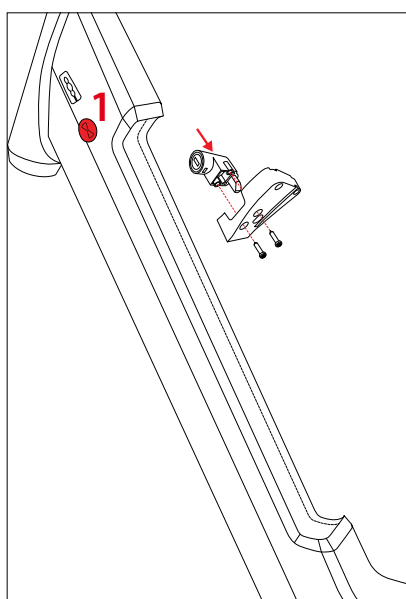

Figure 4.33 Lock iassembly1
2. Place the rubber plug [1] into the opening for the key (Fig. 4.33).
3. Connect the plastic part of the lock to the lock using two M5 x 14 mm fasteners (Fig. 4.33).